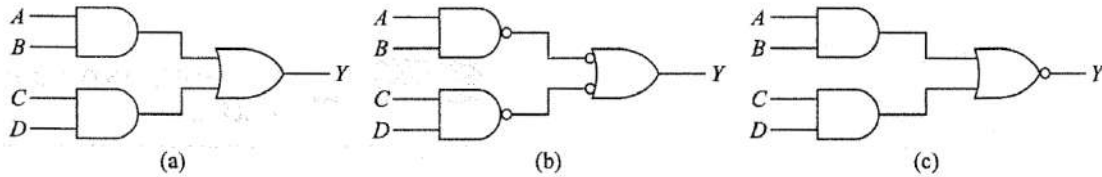

Fig. 2.31 (a) AND-OR circuit, (b) NAND-NAND circuit, (c) AND-OR-INVERT circuit
- Since NAND gates are the preferred TTL gates, we would build the circuit of Fig. 2.31 b. As you know, NAND-NAND circuits like this are important because with them you can build any desired logic circuit.